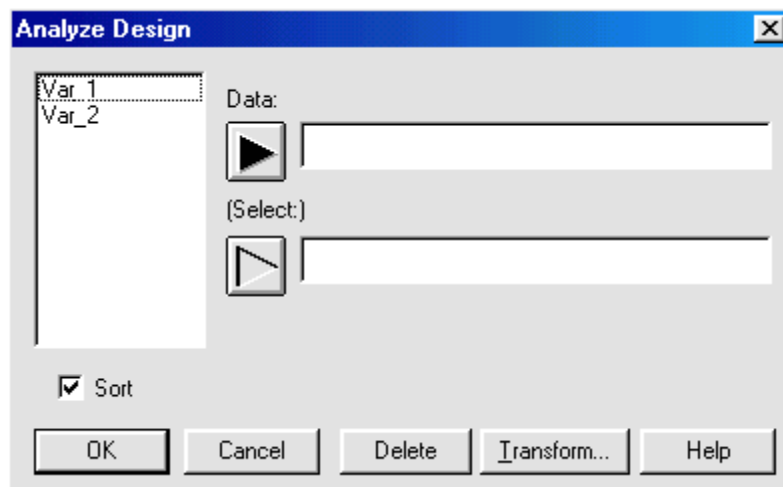

Figure 11-8. Analyze Design Dialog Box
15. Choose **SPECIAL... EXPERIMENTAL DESIGN... ANALYZE DESIGN...** from the Menu bar to display the Analyze Design dialog box shown in Figure 11-8.